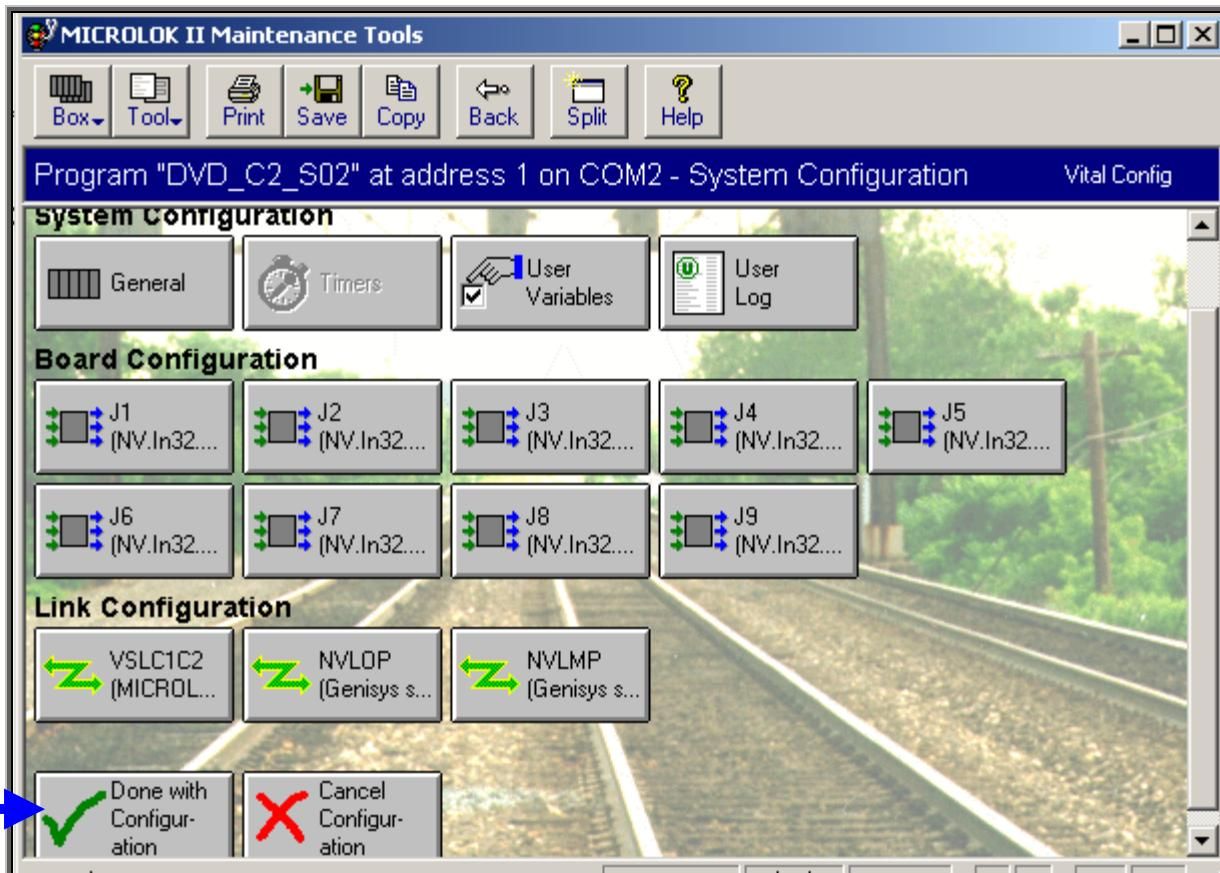

Figure-7.6.4
- ❖ Once again “System configuration” selection window appears (Figure-7.6.4).